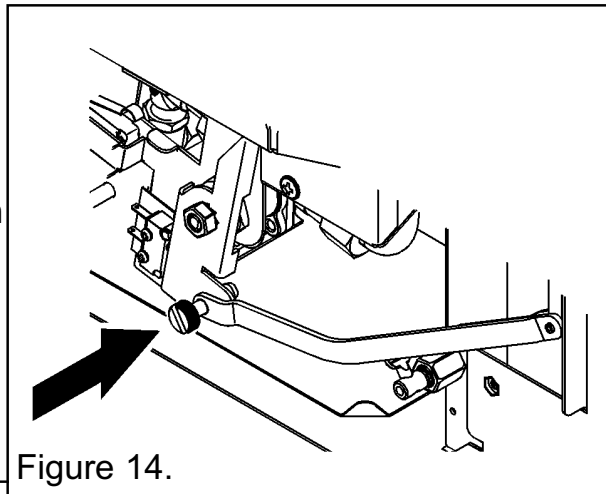

Figure 14.
3. Unscrew and remove the screw that secures the slider arm assembly to the burner (See figure 14).